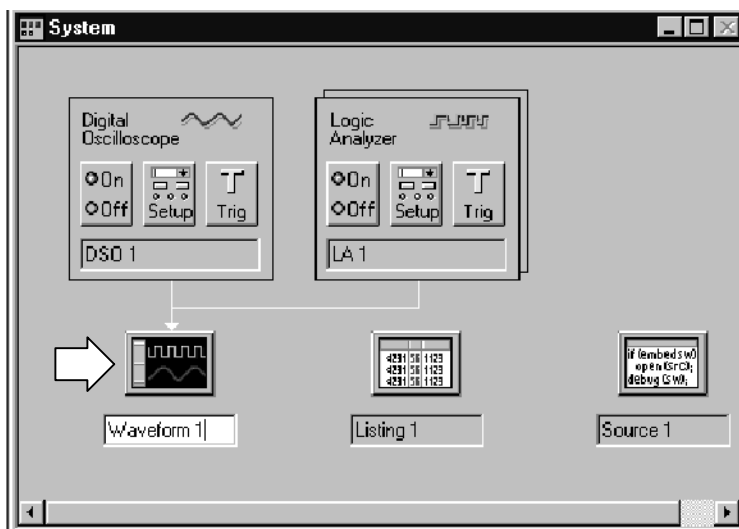

**Figure 3-59: Opening a data window**
- To open a data window, go to the System window and select a data window button. See Figure 3-59.